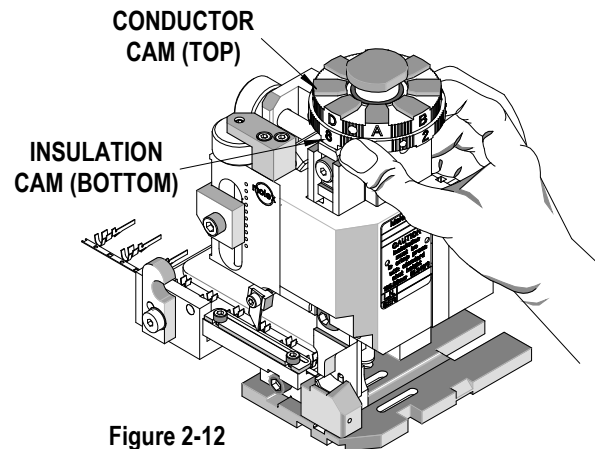

Figure 2-12
4. The desired crimp height can be achieved by rotating the conductor adjusting cam. See Figure 2-12. Each increment represents approximately 0.10mm (.004") for a total adjustment of 0.40mm (.016"). The "A" setting is the loosest crimp height and the "D" setting is the tightest. If you find that the crimp height is not acceptable you can rotate the adjusting cam until the desired crimp height is obtained. See Shut Height.